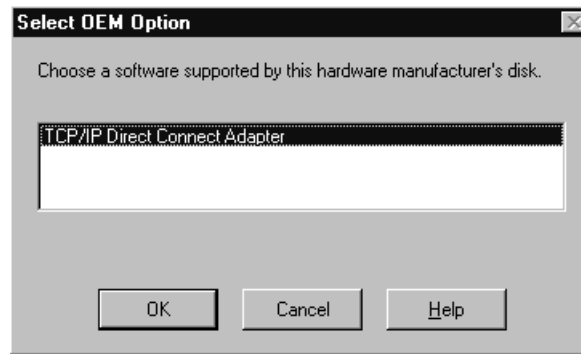

Figure 6-15. Select OEM Option
6. The Select OEM Option dialog (Figure 6-15) will display the TCP/IP Direct Connect Adapter. Click **OK** to install the driver.